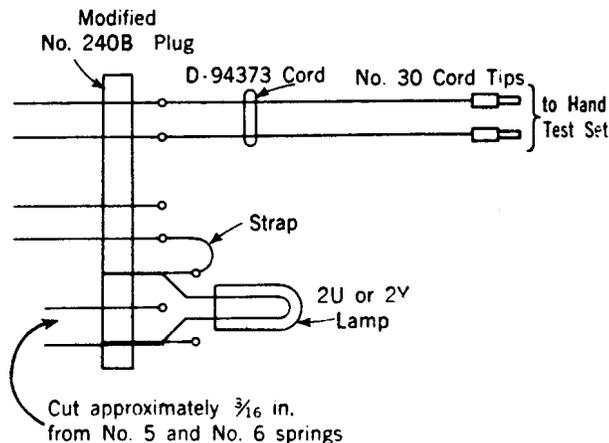

Fig. 1
2.01 One modified No. 240B Plug with lamp socket springs from a No. 240F Plug added. Arrange the lamp springs for connecting the lamp as shown in Fig. 1 and equip with a No. 2U or 2Y lamp, whichever will give the best lamp indication, depending upon the trunk loop condition in the particular office. Connect the cord and plug to a Dial Hand Test Set (D-81763 or equivalent).